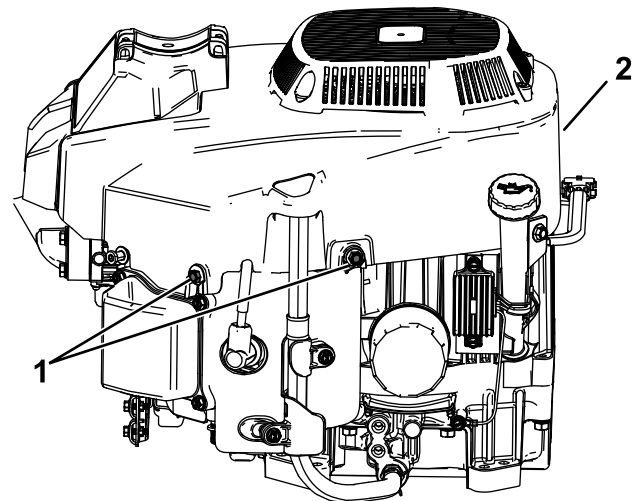

Figure 53
4. Loosen the bolts and remove the fan housing (Figure 53).